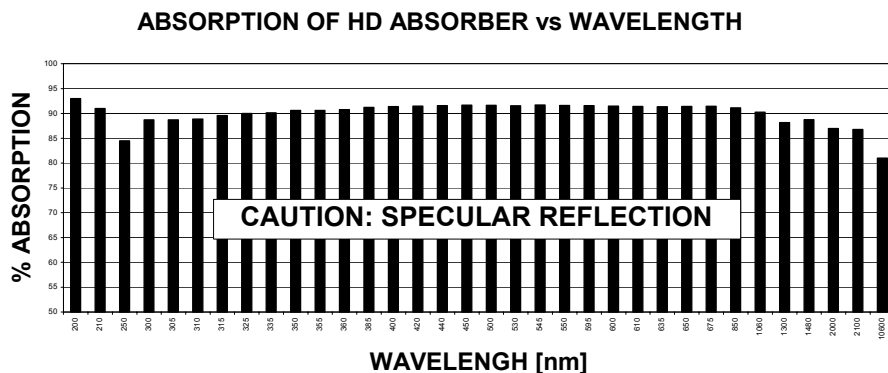

Figure 1
**Warning:** You must exercise caution when using HD detectors. They exhibit spectral reflection of between 7% and 18%, of the input power, back out of the aperture. Please refer to Figure 1 to determine the reflectance for the wavelength you are measuring. These detectors should be treated as a partial mirror or any other type of reflective optic and the appropriate caution level observed, especially at the CO2 wavelength. Detailed wavelength information is contained in the chart at the end of this manual.